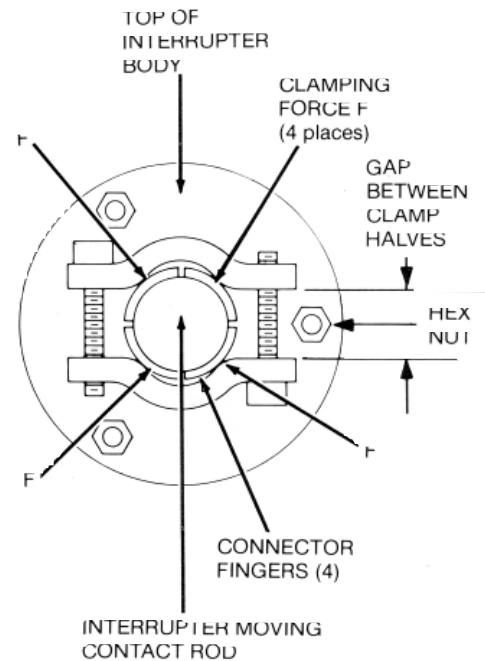

Figure 17. Orientation of interrupter and clamp.
7. Carefully slide the new interrupter movable contact rod into the upper coupler. Orientate the interrupter so the clamps can be installed as shown in Figure 17. Be sure the rod bottoms in the coupler.